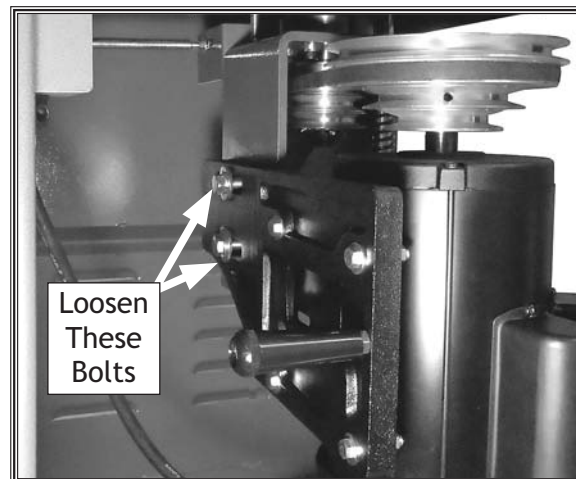

Figure 25. Motor adjustment hex bolts.
3. Loosen the two motor adjustment hex bolts (see Figure 25), then slide the motor toward the spindle assembly. DO NOT remove the bolts completely.